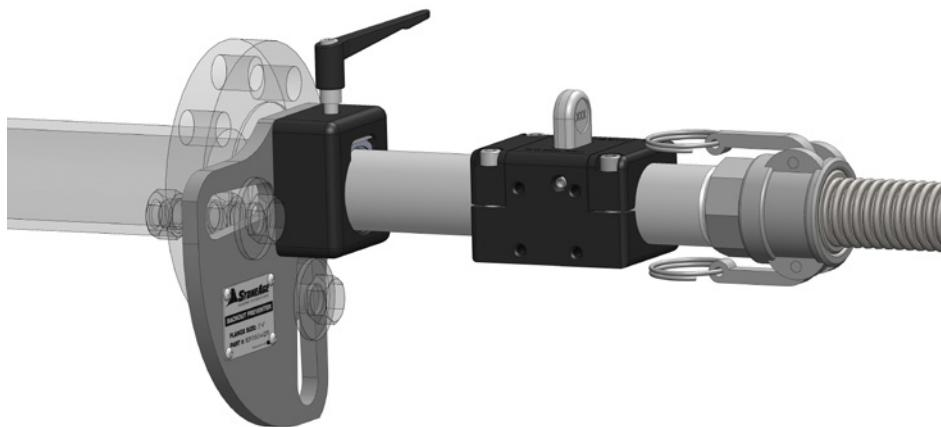

**FIGURE 7**
7. Attach desired tool onto the male hose end (Stoneage® Beetle® shown for reference). SEE THE APPLICABLE TOOL MANUAL FOR INSTALLATION INSTRUCTIONS. Loosen the adjustable handle on the Hinge Clamp. Feed the high pressure hose with tool and Snout Tube into the Quarter Plate Flange Mount. Tighten the adjustable handle to secure. (**Figure 7**)
5. Attach desired tool onto the male hose end (Stoneage® Beetle® shown for reference). SEE THE APPLICABLE TOOL MANUAL FOR INSTALLATION INSTRUCTIONS. Connect the Male and Female Positioner Arms. Select the appropriate positioning holes and insert the Quick Release Pin through both arms. (**Figure 7**)